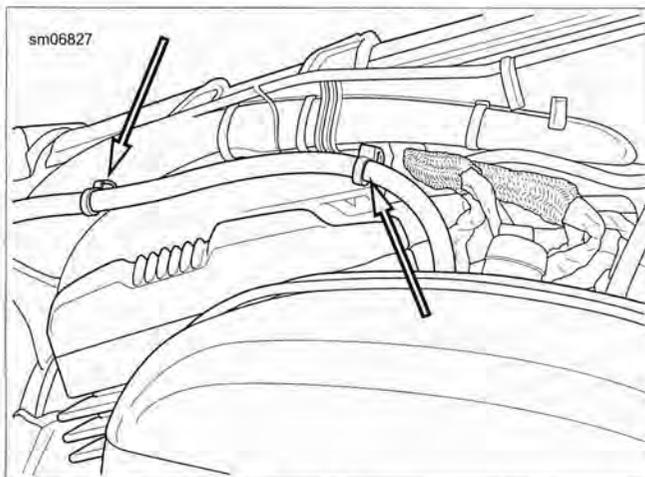

Figure 4-90. Cable Strap Locations
- See Figure 4-90. Secure the hose to the holes in the wire harness caddy with barbed cable straps.